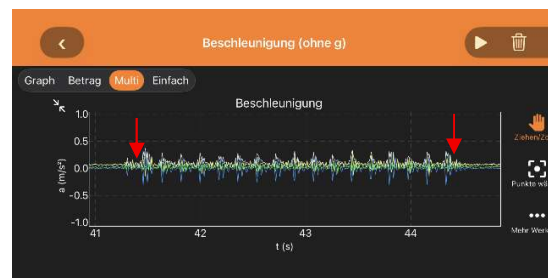

Fig. 4: Selection of one complete mixing operation using Pan/Zoom. Seventeen peaks or revolutions are counted within the selected sequence.
- Select **Pan/Zoom** and enlarge and move the graph to select one complete mixing operation (Fig. 4).
Calculation example based on the measurement data in Figs. 4 and 5:
Number of revolutions $N = 17$ (see Fig. 4)